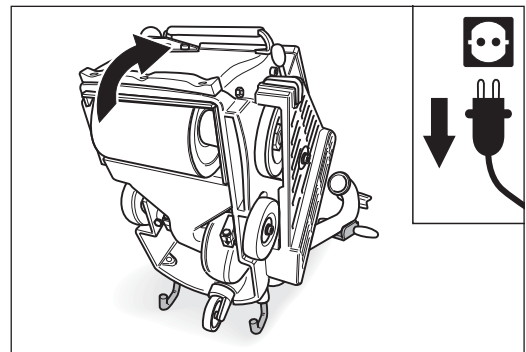

Fig. 81 Pull the power plug out of the socket! Tilt the machine backwards. Ensure that the machine is standing securely!
- 3 Tilt the machine backwards over the safety guards so that you can see the wheel bearings (fig. 81). **Ensure that the machine is standing securely!**
- 6 Tilt the machine backwards over the safety guards (fig. 81).